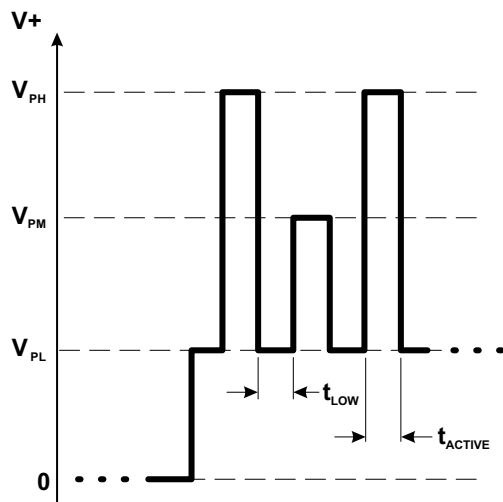

Figure 6: Parameter Selection Pulse Train
Each programmable mode/parameter can be accessed through a specific register. To select a register, a sequence of voltage pulses consisting of a V_{PH} pulse, a series of V_{PM} pulses, and a V_{PH} pulse (with no V_{CC} supply interruptions) must be applied serially to the VOUT pin. The number of V_{PM} pulses is called the key, and uniquely identifies each register. The pulse train used for selection of the first register, key 1, is shown in Figure 6.